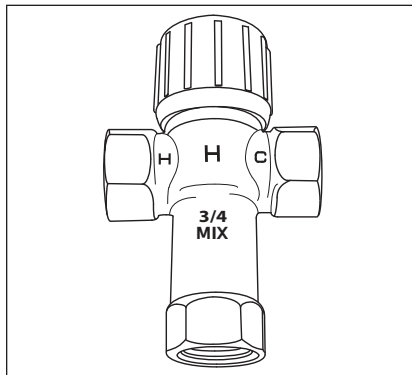

Figure 8 - Thermostatic Mixing Valves installed at each point-of-use can help prevent scalds.
- Thermostatic Mixing Valves (Figure 8 on page 8)
Install Thermostatic Mixing Valves (Figure 8) to regulate the temperature of the water supplied to fixtures (for example, the kitchen sink, bathroom sink, bath and shower). Consult the valve manufacturer's instructions or a qualified person.
▲ WARNING! Even if the water heater thermostat is set to a relatively low temperature, hot water can scald. Install Thermostatic Mixing Valves to reduce the risk of scalding (see page 4 and Figure 8).